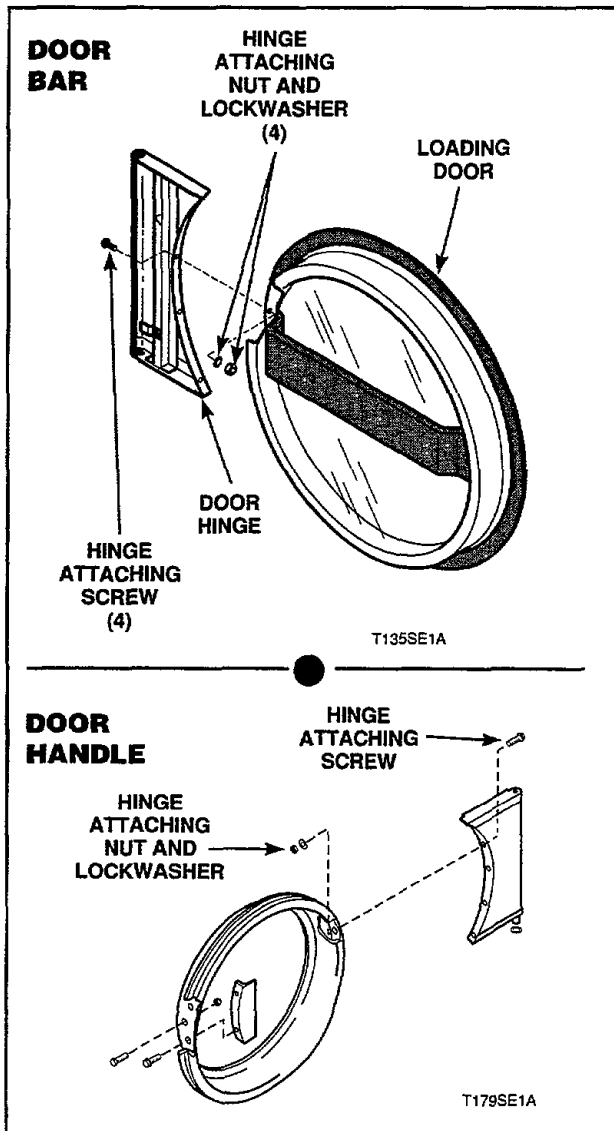

Figure 2
**3. DOOR HINGE (Figure 2)**
- Remove nuts and screws holding hinge to door frame, Figure 2.